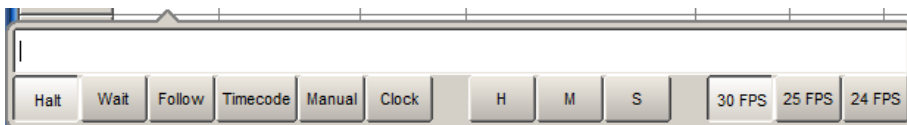

Figure 20.10. The Trigger Toolbar
3. The Trigger Toolbar will appear below the Wait cell; see *Figure 20.10, "The Trigger Toolbar"*. Select an option from this.
3. The Trigger Toolbar will appear below the Wait cell; see *Figure 20.10, "The Trigger Toolbar"*.